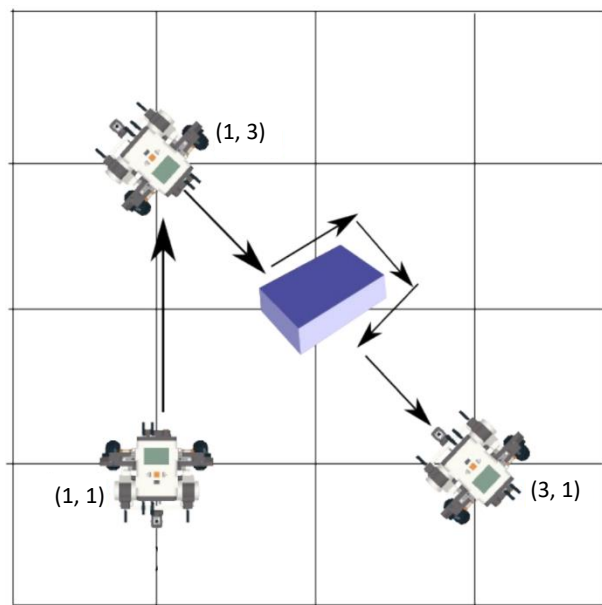

Figure 3. Example robot path 2.
4. Modify the program to avoid any obstacles encountered along the robot's path. For example, if the robot was travelling from (1, 3) to (3, 1), it should avoid the obstacle along the path and still reach (3, 1) as shown in **Figure 3** below.